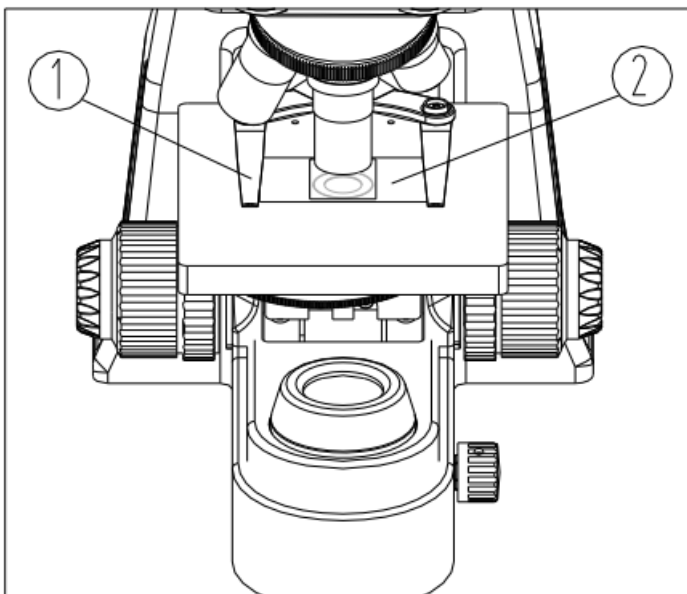

Fig. 8
1. Place the slide on the stage with the cover glass of slide ② facing upwards and move the specimen to the center (aligned with the center of objective). Hold the slide in place using the slide-holder ① (see Fig.8).